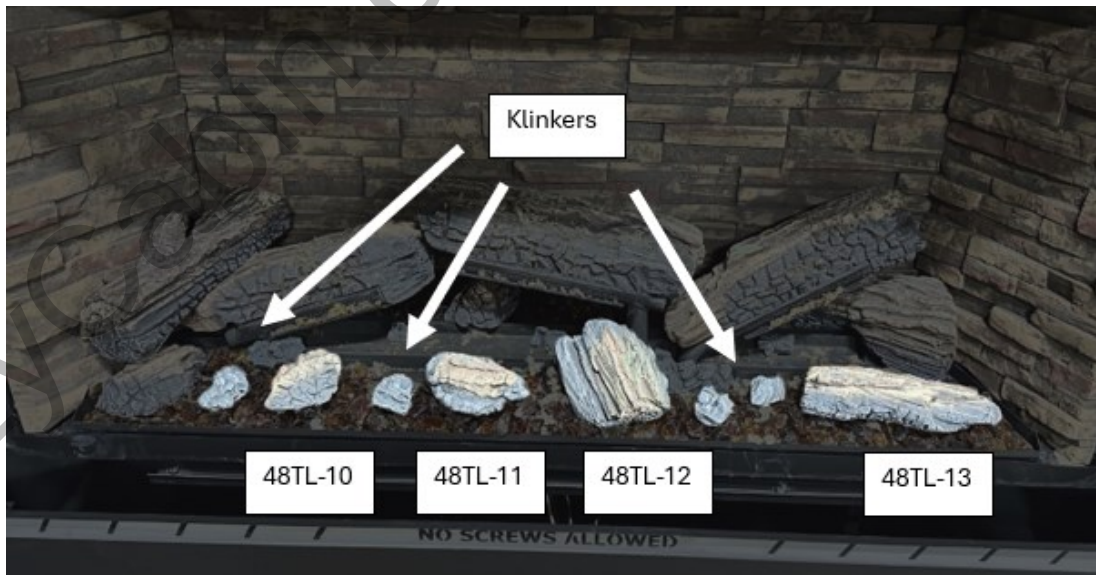

Figure 8 - Log Placement 4
5. Install part of the crushed media in the front ember bed on top of the perforated metal. Install logs #48TL-10, #48TL-11, #60TL-12, and #48TL-13 as shown in Figure 8. Log #48TL-12 gets positioned by the (2) studs in log #48TL-7. Install the (4) large klinkers across the front ember bed.